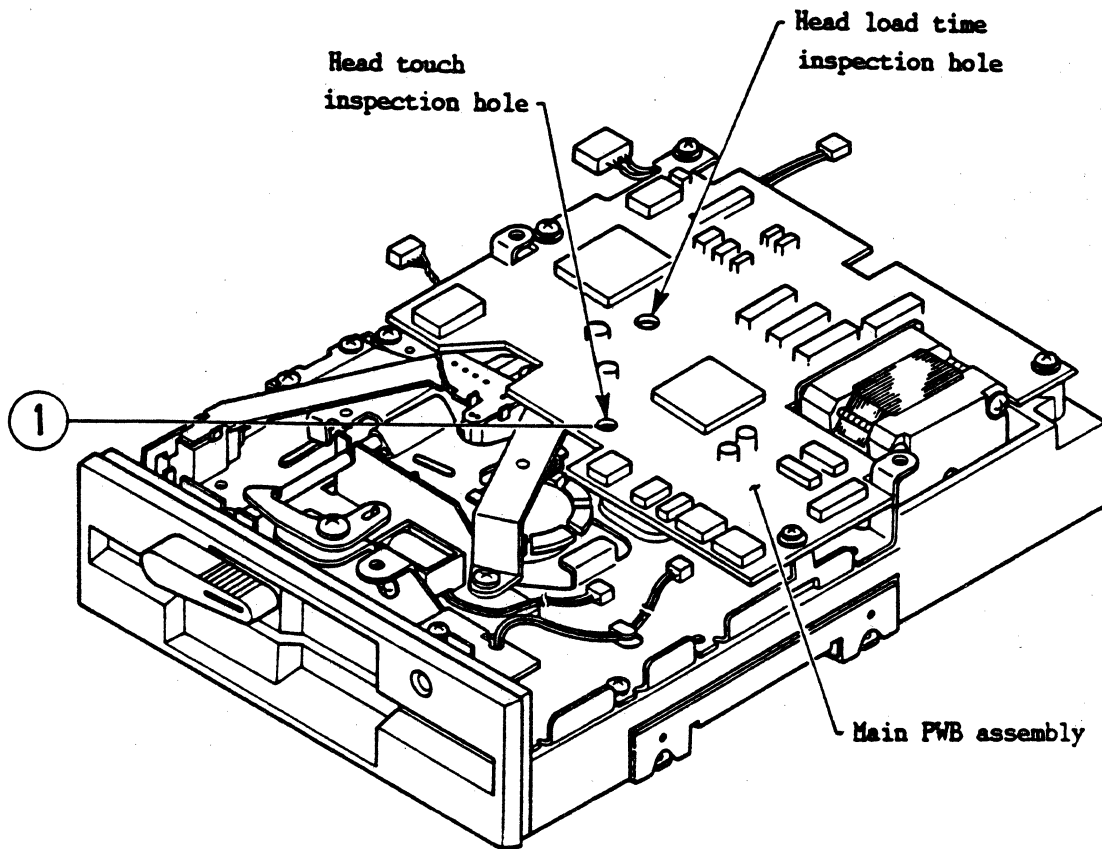

Figure 4-7 Head Contact Inspection
6. Refer to Figure 4-7. Insert a thin rod into the inspection hole "1" of the Main Circuit Card and press the top of the head very slightly to apply about 4 to 7 ounces (10 to 20 grams). Repeat steps 4 and 5 with the weight applied.